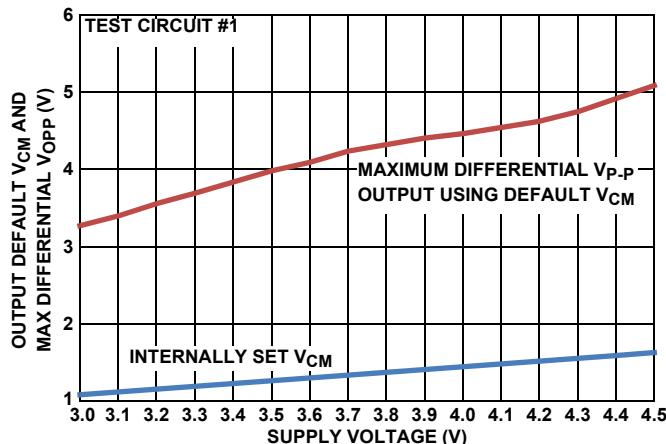
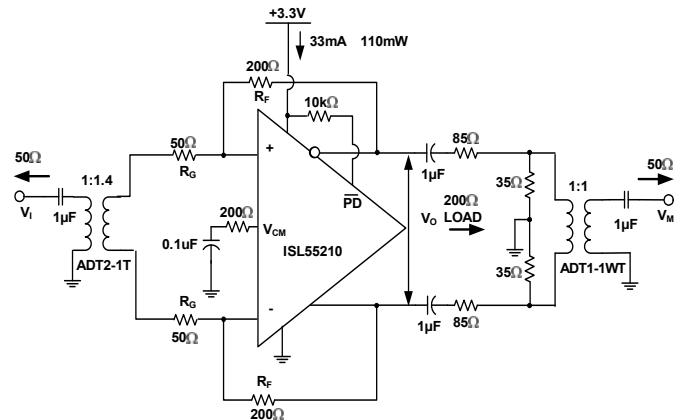

FIGURE 26. DEFAULT V_{CM} AND MAX $V_{O\text{PP}}$ vs SUPPLY VOLTAGE
FIGURE 28. TEST CIRCUIT #1
The circuit of Figure 28 forms a starting point for many of the characterization curves for the ISL55210. Since most lab sources and measurement devices are single-ended, this circuit converts to differential at the input through a wideband transformer and would also be a typical application circuit coming from a single ended source. Assuming the source is a 50Ω impedance, the R_G resistors are set to provide both the input termination and the gain. Since the inverting summing nodes act as virtual ground points for AC signal analysis, the total termination impedance across the input transformer secondary will be $2 * R_G$. Setting this equal to $n^2 * R_S$ will give a matched input impedance inside the bandwidth of the transformer (where "n" is the turns ratio). The amplifier gain is then set by adjusting the feedback resistors
Working with a transformer coupled input as shown in Figure 28, or with two DC blocking caps from a differential source, means the output common mode voltage set by either the default internal V_{CM} setting, or a voltage applied to the V_{CM} control pin, will also appear as the input common mode voltage. This provides a very easy way to control the ISL55210 I/O common mode operating voltages for an AC coupled signal path. The internal common mode loop holds the output pins to V_{CM} and, since there is no DC path for an I_{CM} current back towards the input in Figure 28, that V_{CM} setting will also appear as the input common mode voltage. It is useful, for this reason, to leave any input transformer secondary centertap unconnected. The internally set V_{CM} voltage is referenced from the negative supply pin. With a single 3.3V supply, it is very close to 1.2V but will change with total supply voltage across the device as shown in Figure 26.
Most of the characterization curves start with Figure 28 then get different gains by changing the feedback resistor, R_F , use different input transformers where then the R_G is also adjusted to hold an input match, or vary the loading. For load tests below the 200Ω shown in Figure 28, a simple added shunt resistor is placed across the output pins. For loads $>200\Omega$, the series and shunt load R's are adjusted to show that total load (including the 50Ω measurement load reflected through the 1:1 output measurement port transformer) and provide an apparent 50Ω differential source to that transformer. This output side transformer is for measurement purposes only and is not necessary for final applications circuits. There are output interface designs that do benefit from a transformer as part of the signal path, but the one shown at the right of Figure 28 is used only for characterization to get a doubly terminated 50Ω measurement path going differential to single ended.
The characterization circuit of Figure 28 shows one possible input stage interface that offers several advantages. The ISL55210 can also support a DC coupled differential to differential or single ended input to differential requirement if needed. Where AC coupling is adequate, the circuit of Figure 28 simplifies the input common mode voltage control. If the source coming into this stage is single ended, the input transformer provides a zero power conversion to differential. The two gain resistors (R_G in Figure 28) provide both the input termination impedance and the gain element for the amplifier. For minimum noise, only R_G should be used and set to achieve the desired input impedance. Since the ISL55210 is a VFA device, these resistor values can be scaled up and down a bit more freely than a current feedback based FDA.
3.6V_{P-P} output capability. The V_{P-P} reported in Figure 26 is an asymmetrically clipped maximum swing. Going 10% above this 3.7V target to 4.1V will be within the recommended operating range and give some tolerancing headroom that would also suggest the V_{CM} voltage be moved up to approximately 1.5V. This coincides with the default output V_{CM} from Figure 26. Operating at +4.1V single supply in a Figure 28 type configuration will give the maximum linear available output swing of 3.6V_{P-P}.
The differential inputs of the ISL55210 also have operating range limits relative to the supply voltages. Operating in an AC coupled circuit like Figure 28 will produce an input common mode voltage equal to the outputs. The inputs can operate with full linearity with this V_{CM} voltage down to 1.1V above the GND connection (or -V_S supply). On the default 1.2V output V_{CM} on +3.3V supplies this gives a 100mV guardband on the input V_{CM} voltages. Overriding the default V_{CM} by applying a control voltage to the V_{CM} pin should be done with care in going towards the negative supply due to this limit. On the + side, the maximum V_{CM} above the -V_S supply is 2V so there is more room to move the output V_{CM} up than down from the default value.
Test circuit #1 (Figure 28) is implemented on an Evaluation Module Board available from Intersil. This board includes a number of optional features that are not populated as the board is delivered. The full EVM board circuit is shown in Figure 38 where unloaded (optional) elements are shown in green.